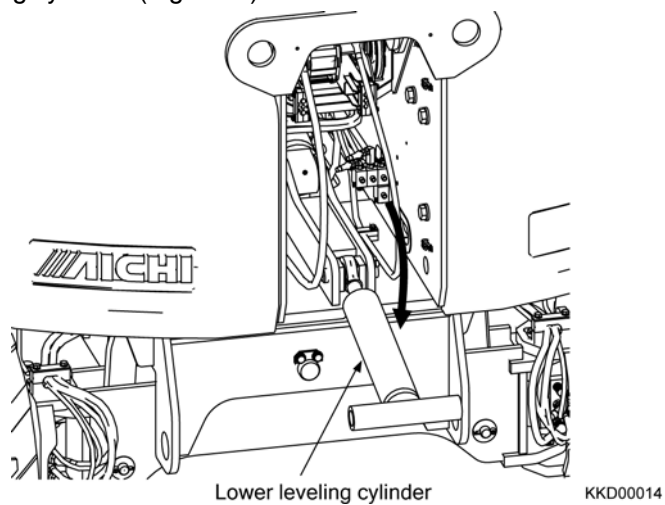

Fig. 2-43
- 18) Lay down the lower leveling cylinder. (Fig. 2-43)